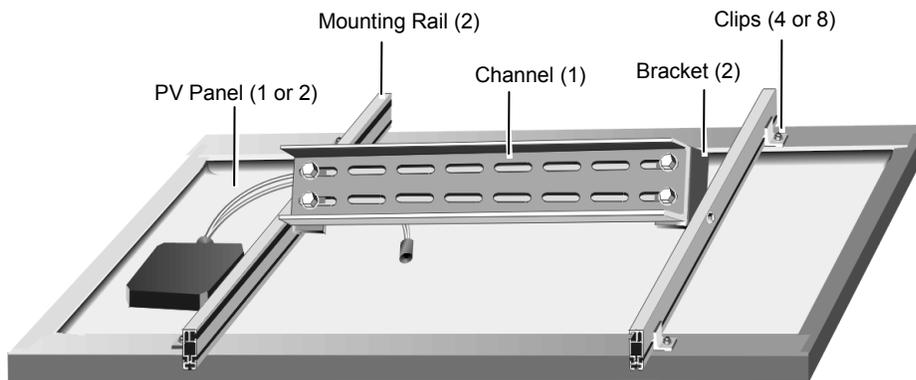

Figure 7 PV Panel and Panel Top Mounting Assembly (for SAL Models with a Single PV Panel)
2. Arrange the panel top mounting assembly parts as shown in Figure 7.
Panel top mounting assembly parts shown in Figure 7 are for SAL-1, SAL-2, SAL-3, and SAL-4 models, which use a single PV panel. Parts for SAL-5 and SAL-6 models are identical except that these models use two PV panels, longer mounting rails, and eight clips.